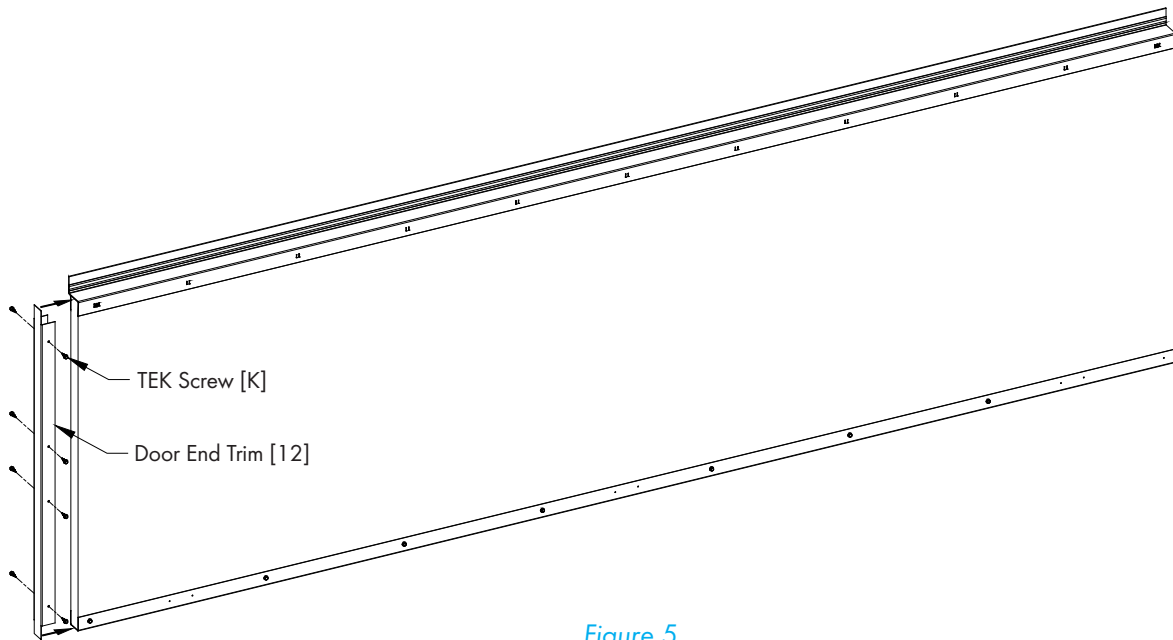

Figure 5
Slide a Door End Trim [12] over the Left Door and secure in place with (8) TEK Screws [K]. See Figure 5.